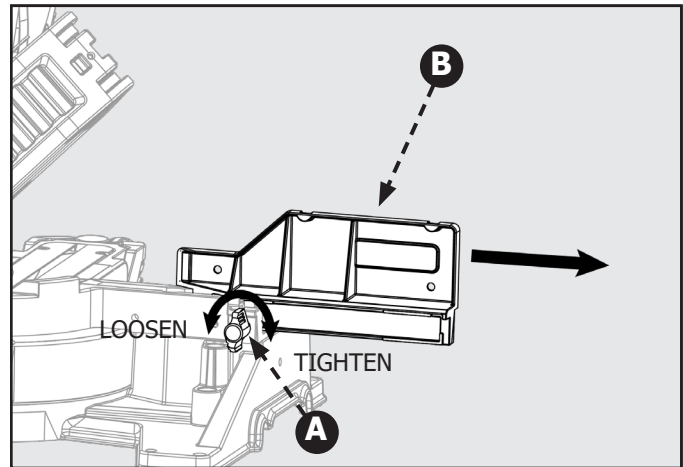

Figure 27
1. Loosen the fence lock knob (A). Slide the upper (adjustable) fence completely out of its track and set to the side. See Figure 27.